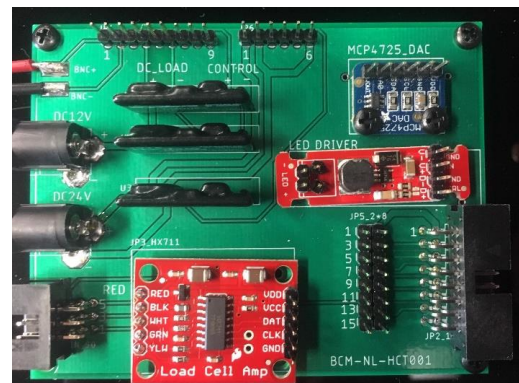

Fig. 2.2
- Get a custom **breakout PCB board** (BCM-NL-HCT001). Solder three **solid state relays** (CC1139-ND), one **HX711 amplifier** (SparkFun, SEN-13879), one **MCP4725 DAC** (Adafruit, 935), one **LED driver** (SparkFun, SS25S075), one **6-pin 2x3 box header connector** (JP1), one **16-pin 2x8 box header connector** (JP2), one 9-pin (JP4), one 6-pin (JP6) and one 16-pin 2x8 straight header connectors (JP5), on the PCB board (Fig.2.2).